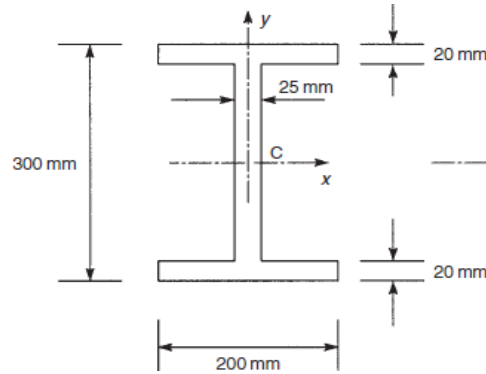

Figure.2
- 3 The cross-section of a beam has the dimensions shown in figure.2 If the beam is subjected to a negative bending moment of 100 kNm applied in a vertical plane, determine the distribution of direct stress through the depth of the section [15M]